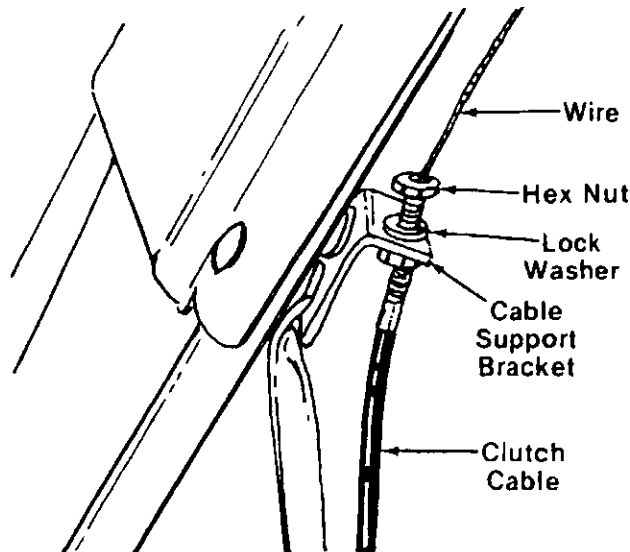

FIGURE 15.
17. Remove one nut and lock washer from other end of clutch cable. Slip the wire up through slot on cable support bracket. Start hex nut and lock washer back on end of clutch cable. See figure 15. Do not tighten at this time.